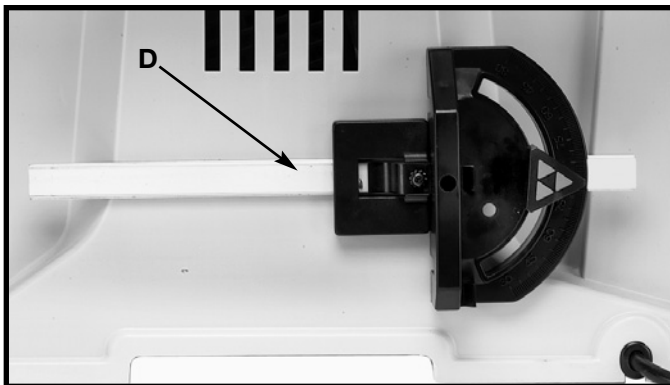

Fig. 23
3. Fig. 23 illustrates the miter gauge (D) inserted into the holder.